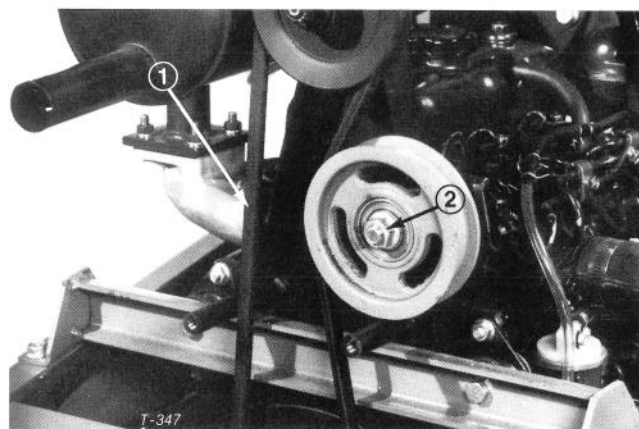

Figure 52
3. Belt should deflect 1/4 in. (6 mm) midway between the pulleys with 5 lbf (22 N) (Fig. 52). If deflection is incorrect, proceed to step 4. If correct, proceed to step 5.
4. Loosen locknut securing idler pulley (Fig. 52). Push idler pulley against belt until proper deflection is achieved and tighten idler pulley locknut (Fig. 52).
2. Loosen locknut securing idler pulley, slide pulley away from belt and remove belt from top and bottom pulleys (Fig. 52).
3. Install new belt and adjust for proper tension. Push idler pulley against belt until belt deflects 1/4 inch. (6 mm) with 5 lbf (22 N) midway between top and bottom pulleys (Fig. 52). Tighten idler pulley locknut to secure adjustment (Fig. 52).